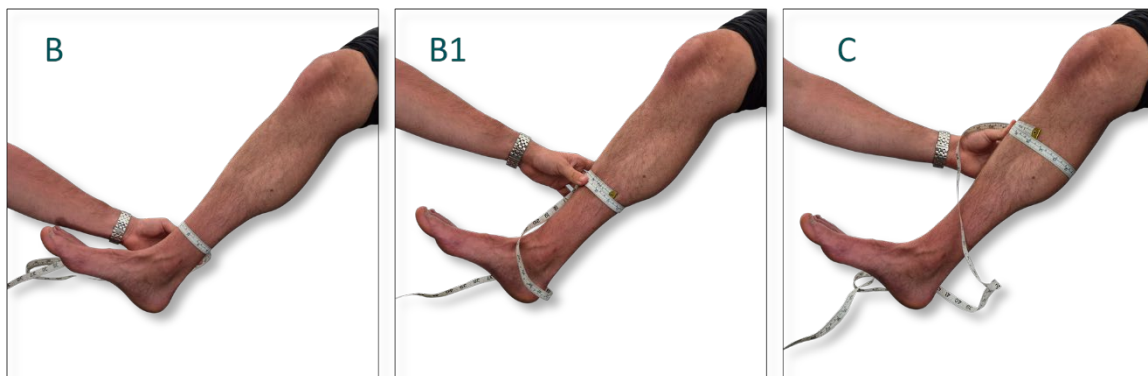

Figure 9. Leg measurement locations at B, B1 and C positions.
- To get these leg measurements, use a measuring tape, and measure the patient’s leg at the three locations indicated in Figure 9.